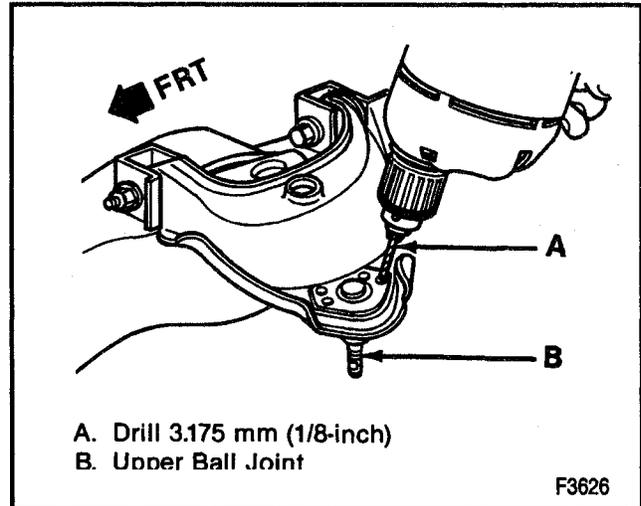

Figure 17—Drilling the Upper Ball Joint Rivets
3. Rivets from the upper ball joint (66).
A. Use a 3.175 mm (1/8 inch) drill to cut a 6.35 mm (1/4 inch) deep hole in the center of each rivet (Figure 17).